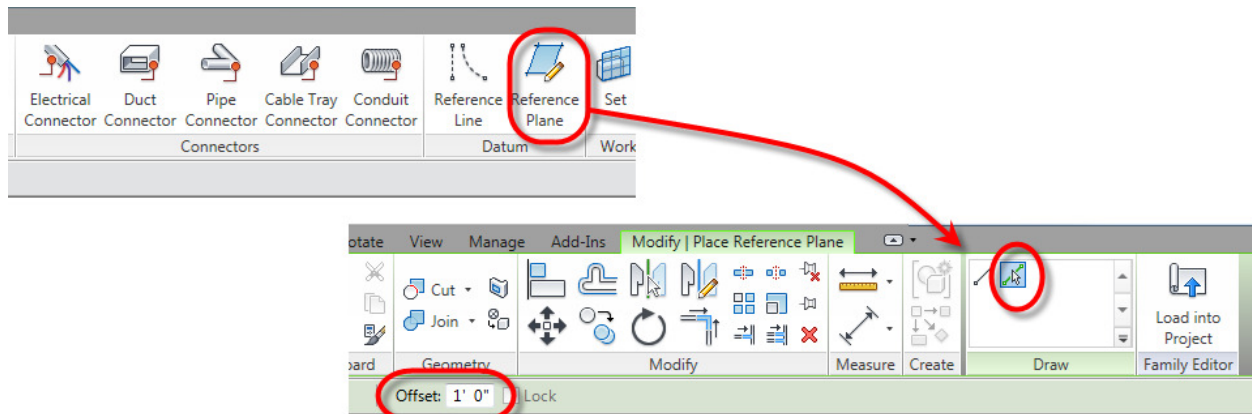

Figure 11. Creating Reference Planes by picking existing linework.
1. Navigate to the **Ref Level** Floorplan View if you’re not already there. From the *Home* ribbon, click the **Reference Plane** tool, then click the **Pick Lines** tool. On the *Options Bar*, set the *Offset* to 12”. (See Figure 11)